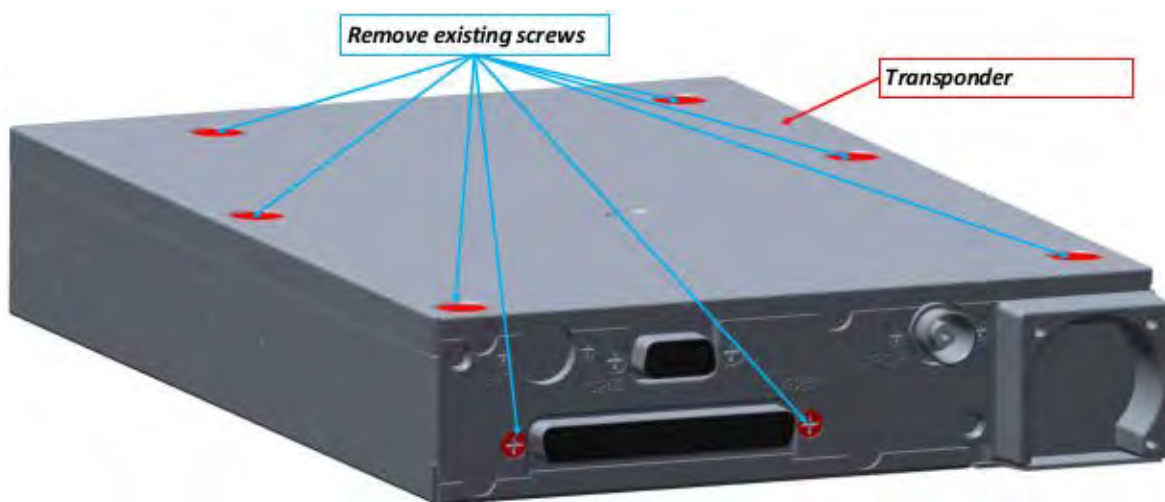

FIGURE 14-66
- a. If there are existing screws on transponder, remove existing screws. (See Figure 14-66.)